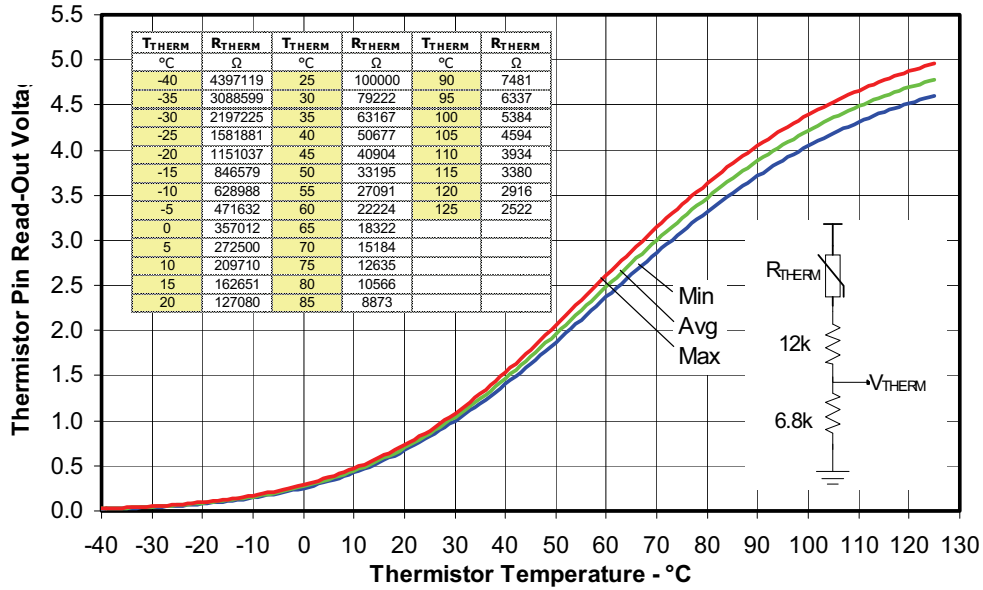

Figure 9. Thermistor Readout vs. Temperature (6.8kohm, 1% pull down resistor) and Nominal Thermistor Resistance values vs. Temperature Table.
3. Value of the boot-strap capacitors depends upon the switching frequency. Their selection should be made based on IR design tip DN 98-2a, application note AN-1044 or Figure 9. Bootstrap capacitor value must be selected to limit the power dissipation of the internal resistor in series with the V_{CC} . (see maximum ratings Table on page 3).